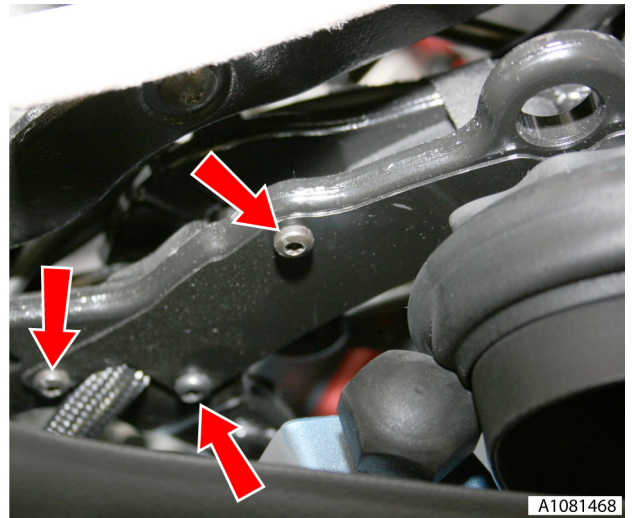

Fig. 7
12. Remove 3 screws securing harness cover plate to roof frame and remove (see Fig. 7).